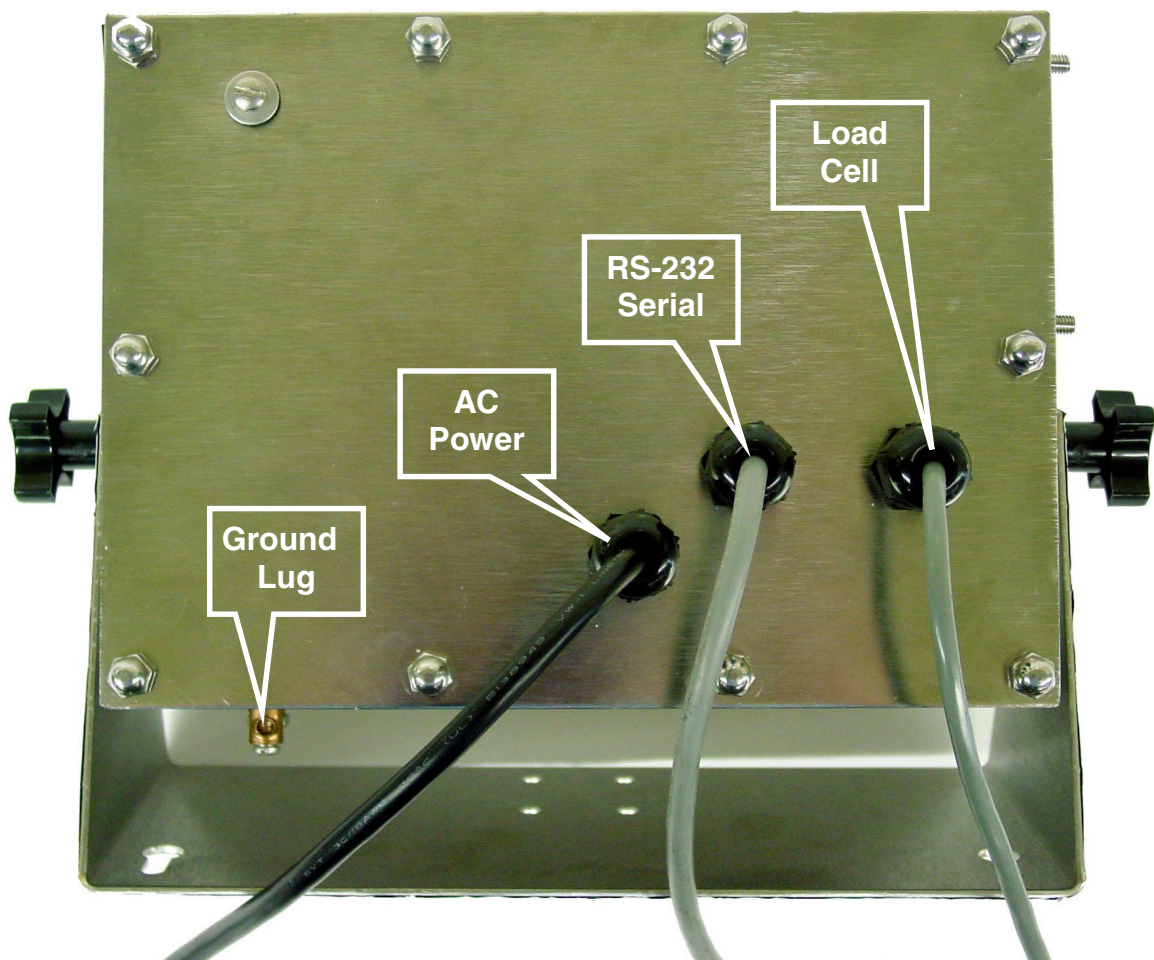
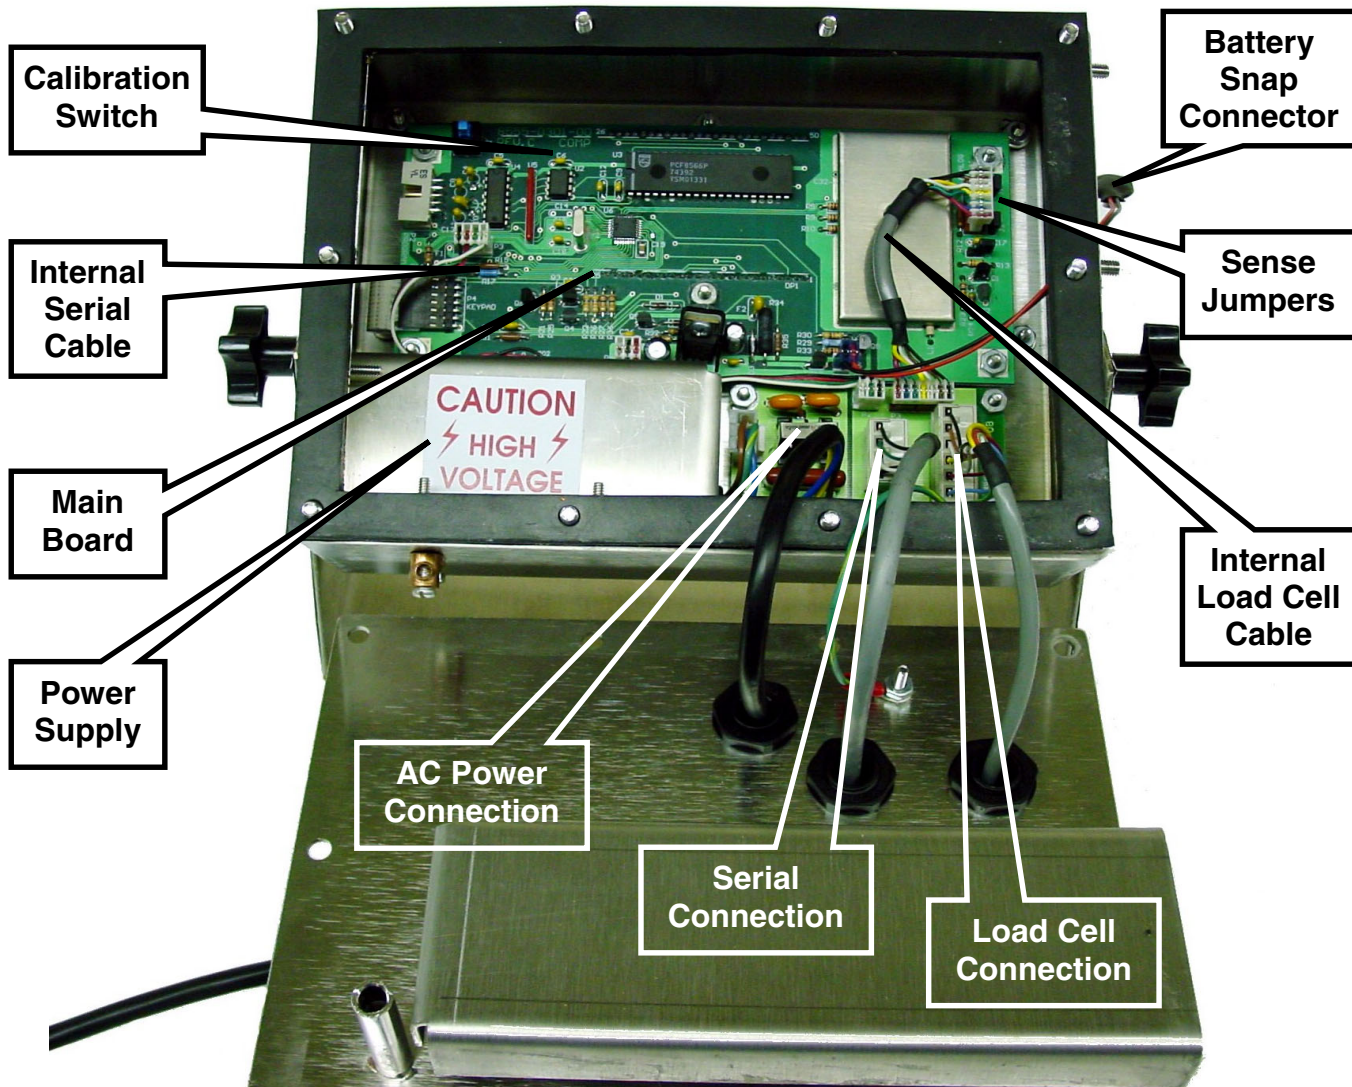

Figure No. 11
Figure No. 12
Continue by removing the back cover on the instrument enclosure. Referring to Figure No. 11, remove the 10 acorn nuts and set aside. Lift the back cover (so that it clears the threaded studs), slide the cover slightly to the left and towards the bottom of the enclosure, lift and remove, exposing the internal circuit boards. See Figure No. 12.
1. Loosen the cable gland connector for the load cell. This gland connector is located on the back of the enclosure. Refer to Figure No. 11 for an illustration of the gland connector layout.
- Loosen the cable gland connector(s) for the RS-232 serial cable. The gland connector for the RS-232 serial data is located on the back of the enclosure. Refer to Figure No. 11 for an illustration of the gland connector layout.
Referring to Figure No. 11 for an illustration of the gland connector and conduit hole layout, use the 3/8" conduit hole to bring the AC power into the enclosure. Use a seal-tite or rigid conduit fitting to make a water-tight connection. **NOTE!** 18AWG copper wire should be used to connect the AC power to the instrument.
Referring to Figure No. 11 for an illustration of the gland connector and conduit hole layout, use the 3/8" conduit hole for the AC power to bring the DC power wiring into the enclosure. Use a seal-tite or rigid conduit fitting to make a water-tight connection. **NOTE!** 18AWG copper wire should be used to connect the DC power to the instrument.